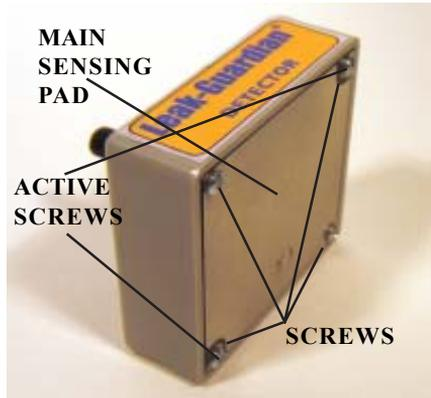

FIGURE 2 - BOTTOM VIEW
When a leak is detected by the sensing pads of the Leak-Guardian Sensor/Transmitter, (figure 2), power is sent through the unit which then transmits a radio signal to the Leak-Guardian Receiver module, closing the incoming water supply, thereby eliminating a potential flood.
3. Pull out the shim from the battery holder, (see figure 2).
Testing the Leak-Guardian is as simple as picking the unit up, wetting the tip of a finger, and placing the wet fingertip between the main sensing pad and the *two active screws*, (the two screws that are sectioned off from the main sensing pad), on the bottom of the unit; (figure 2). The red LED on the Leak-Guardian Sensor/Transmitter will illuminate and the Leak-Guardian Receiver module will respond by shutting off the water supply.
3. Remove the two coin batteries from holder; (see figure 2).